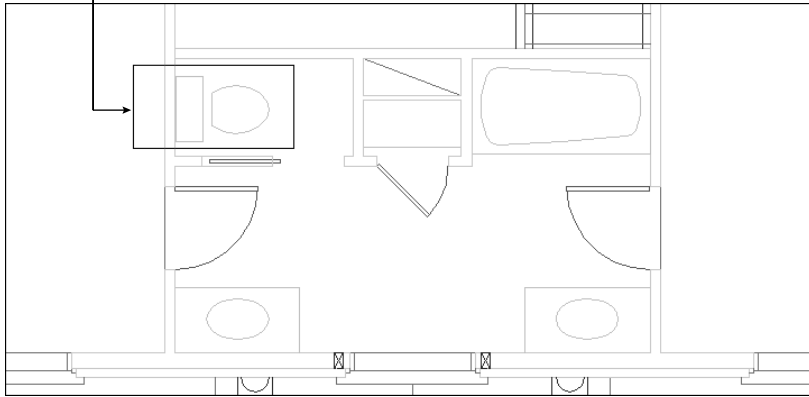
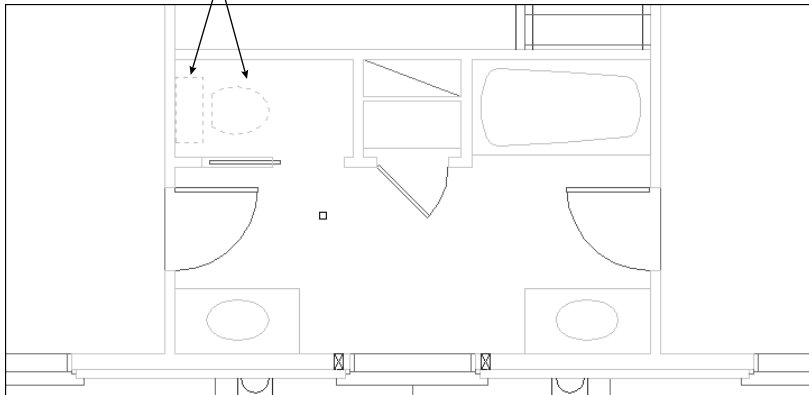

Figure 9-13: Selecting objects with a window. The window selects only objects that lie entirely within the window.
Figure 9-14: The selected objects are highlighted.
- ♦ **Window:** The Window option lets you pick two diagonal corners that define a window. All objects entirely within the window are selected. Figure 9-13 shows the process of picking the window. Figure 9-14 shows the result — the selected objects are highlighted by appearing with dashed instead of continuous lines.